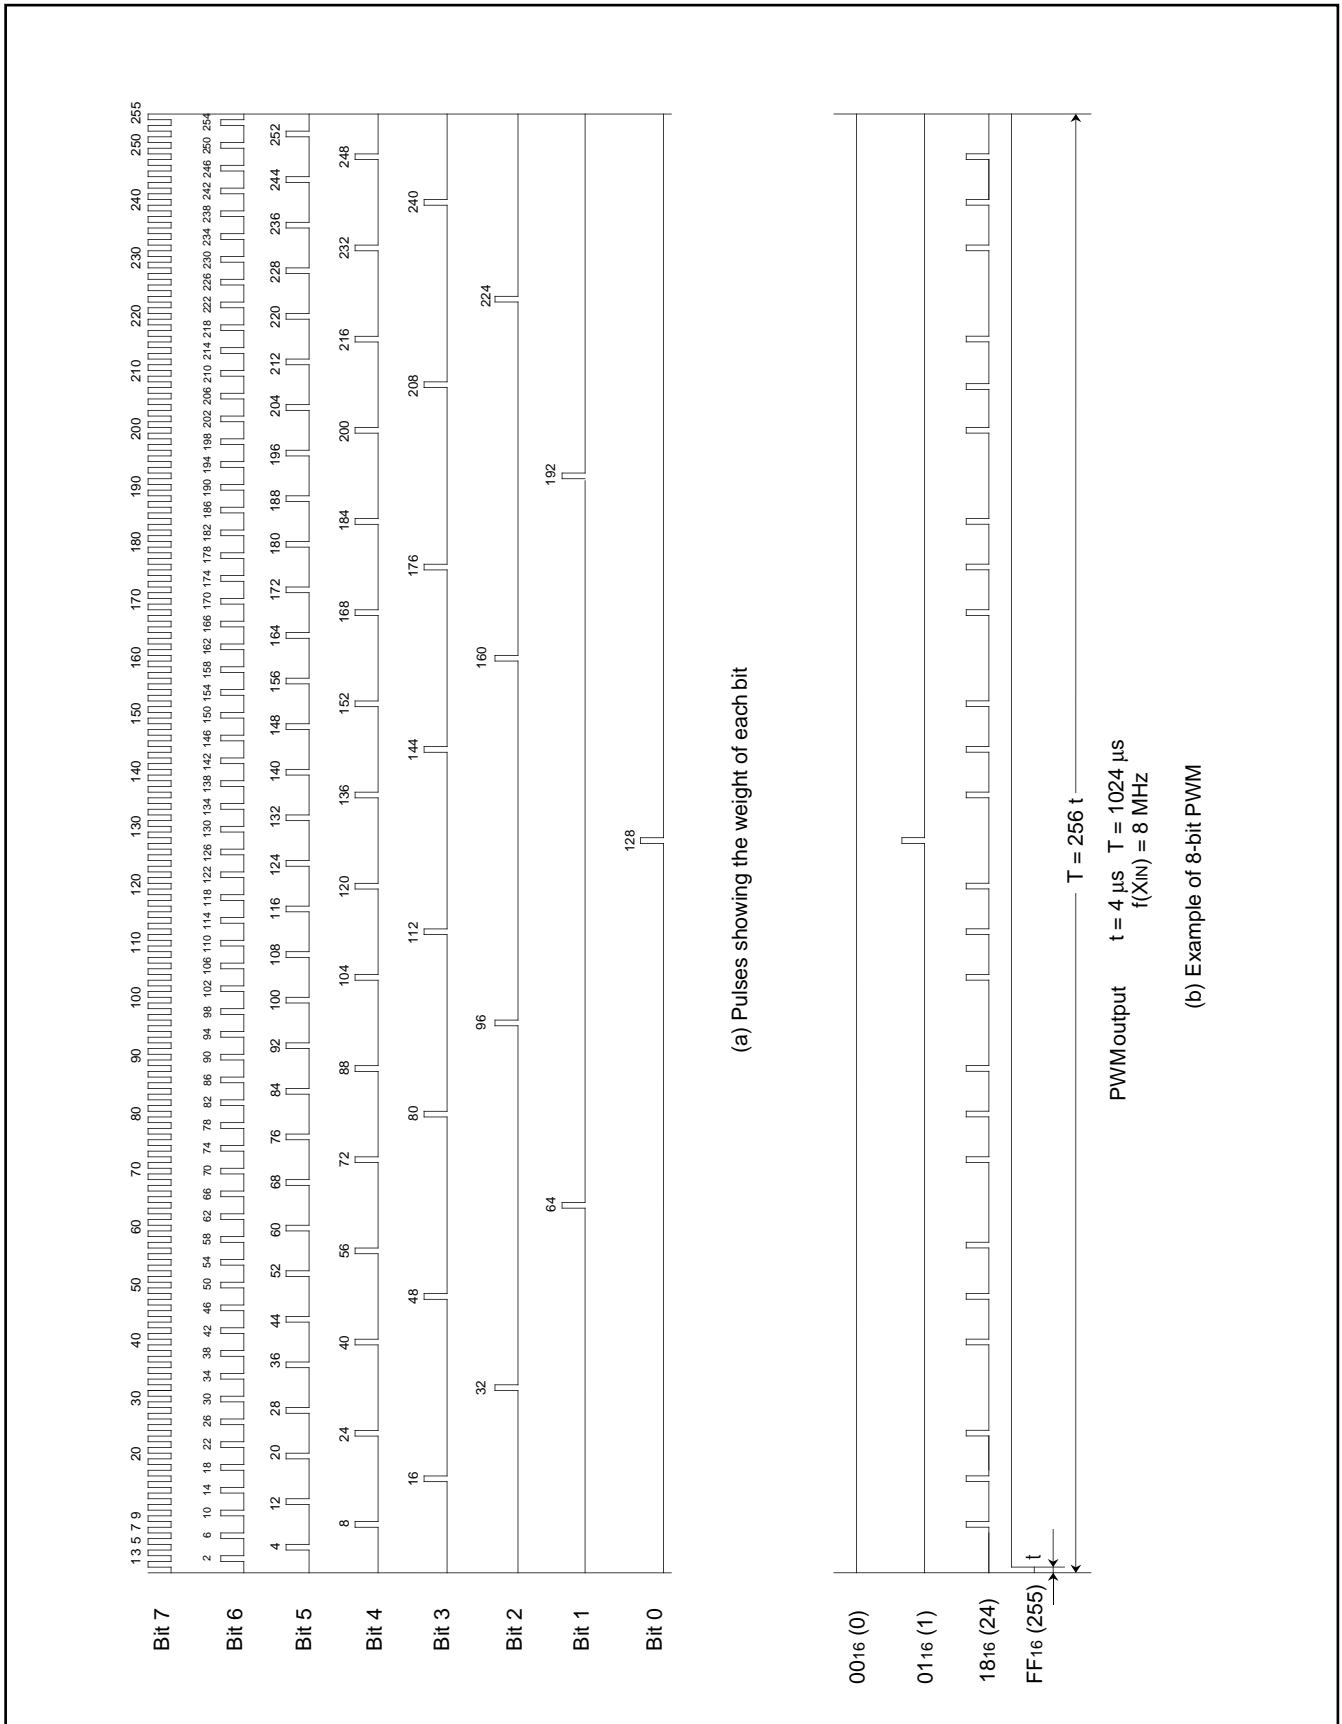

Fig. 13. 8-bit PWM timing
Figure 13 shows the 8-bit PWM timing. One cycle (T) is composed of $256 (2^8)$ segments. The 8 kinds of pulses relative to the weight of each bit (bits 0 to 7) are output inside the circuit during 1 cycle. Refer to Figure 13 (a). The 8-bit PWM outputs waveform which is the logical sum (OR) of pulses corresponding to the contents of bits 0 to 7 of the 8-bit PWM register. Several examples are shown in Figure 13 (b). 256 kinds of output ("H" level area: $0/256$ to $255/256$) are selected by changing the contents of the PWM register. A length of entirely "H" output cannot be output, i.e. $256/256$.
(4) Output after Reset